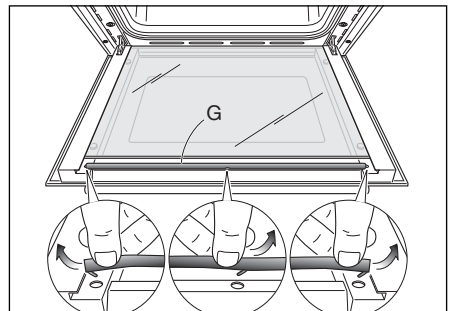

Fig.47d
- Remove the seal "G" by unhooking the three fixing hooks (Fig. 47d)\*.